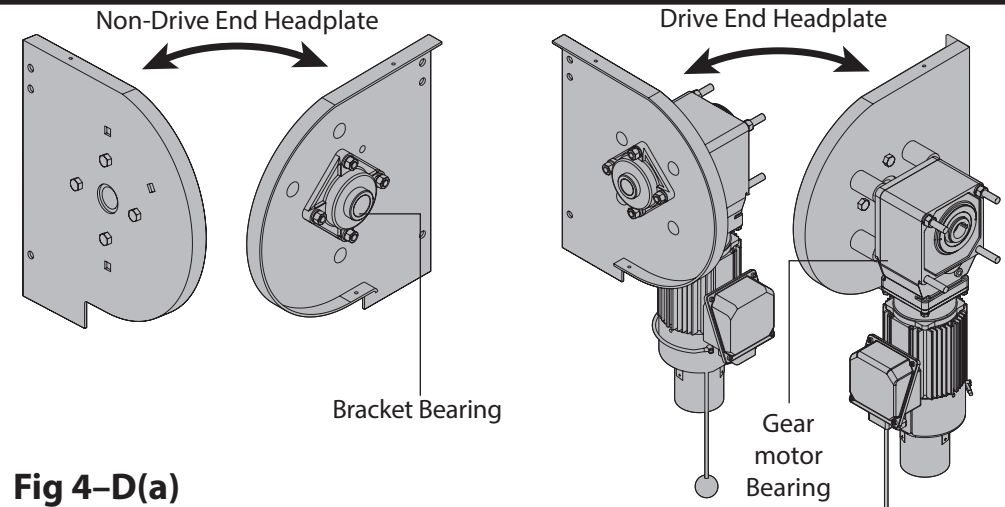

Fig 4-D(a)
4. IDENTIFY DRIVE END OF BARREL ASSEMBLY, Fig. 4-E